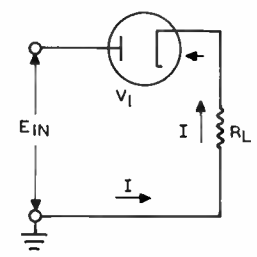

FIGURE 8
3. In the circuit of Figure 8, current I is produced in R_L